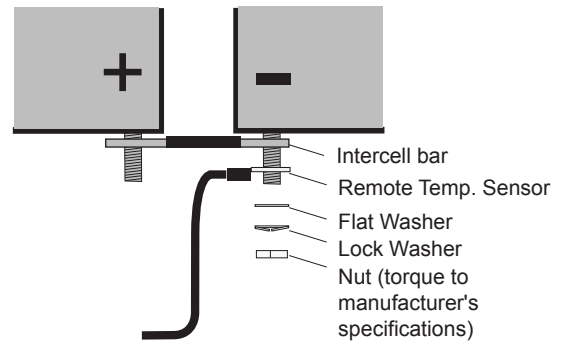

Fig. 2-17, Example of Battery Stack Up
3. Connect adjacent batteries with Intercell Bar, see Fig. 2-17. Where applicable install the Remote Temperature Sensor.